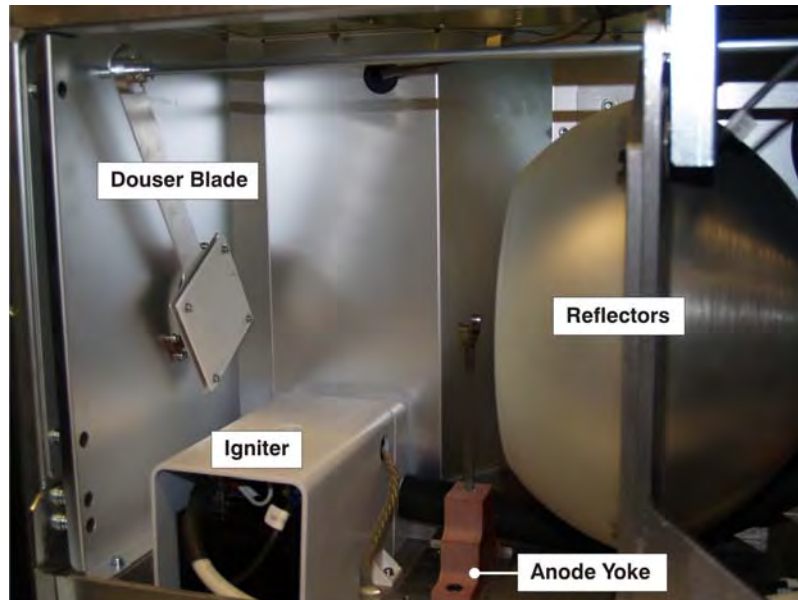

Figure 5-39 Front of Lamp Compartment (shown with lamp removed)
3. Remove the two screws (using 5mm hex key) securing the anode yoke to the baseplate (**Figure 5-39**).